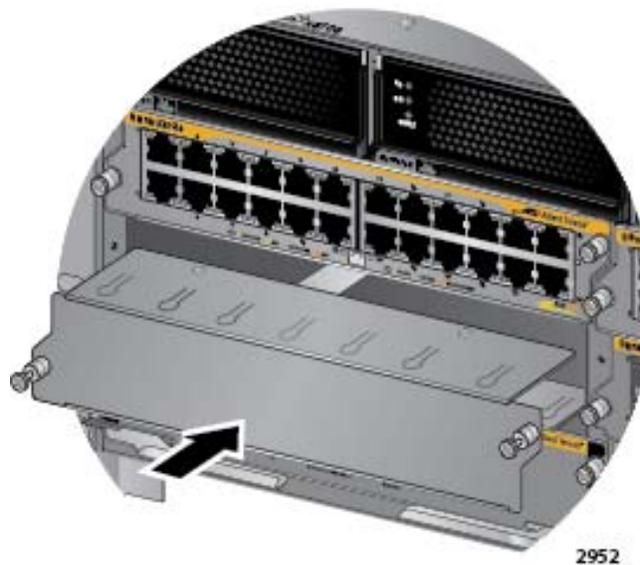

Figure 78. Installing a Blank Slot Cover
1. Position a blank slot cover over an unused slot, as shown in Figure 78.